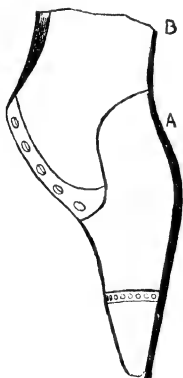
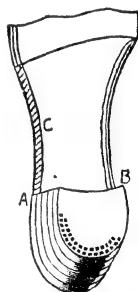

Fig. 137.—Paring Waist and Buffing Edge.
Fig. 138.—Peening Waist and Breaking Heel Corners.
up, as Fig. 137, the edge of the sole is now knifed-up with the knife in the right hand, the point only between the thumb and finger, as shown by B (Fig. 95, page 90), commencing at A (Fig. 137), and going round to the joint on the other side. Only little shavings are taken off, for the sole has been already shaped; all that now remains is to make the edge quite square.
To prepare for knifing-up the waist, the corners A and B (Fig. 138) must be well knocked down by means of a corner-beater or welt-beater, which is made by heating an old file, turning it back for about a third of the way, and while hot beating it up square, at A and B
The corners are knocked down by putting a corner-beater (Fig. 140), right into the corner of the heel and waist, at A or B, and hammering it well down until a decided corner is made to the heel. While this is being done, the boot is held in the position shown by Fig. 138, by the stirrup, firm upon the knees. Then hammer each side of the waist with the peen end of the waist or cramp hammer; this will knock the edge of the waist over, to cover the stitch, and also make it lie closer to the upper. This process will leave marks at C; but a second row of taps, made with the peen of the hammer held so that these lines shall cross the others, will make the edge more even, and also very firm at the side of the stitches. The waist can now be hammered along each
The top of the top piece of the heel can be well filed with the file side of the rasp. The boot is held between the knees, in the position of Fig. 138, or reversed with the toe towards you; it must be held very firmly, with the
Sand-papering is the next process, and a troublesome one it may prove if the sand-paper is not soft, even, and used in the proper place. To do the sand-papering of the sole, the boot can be held in the position of Fig. 137 for the last half, and in the reverse direction for the first half. A sheet of sand paper costs a penny, and folded uniformly it will make sixteen handy pieces. Double one of these rough side out, and hold it between the thumb and finger, as the buffing-knife in Fig. 145, except that the three fingers and the forefinger are closed in the palm of the hand, holding the paper between the thumb and the knuckle of the forefinger, and so far from the edge as to leave the paper under the thumb only. Supposing *D* to be the sand-paper, the folded edge should be at *B*, and being used upon the forepart, this edge must be nearest to the upper; but it must not touch it, nor must the hollowness in the edge be in the least interfered with.
When the edge of the waist was peened as at c (Fig. 138), the process ought to have knocked the welt very close to the upper. With the boot in the position shown in Fig. 137, hold the knife upright, and, commencing at the heel, and coming down to where the sole begins to get thick (A), cut away the edge of this welt in the waist. It will be only a very narrow strip, and as it was skived very thin, it will not be hard to cut. You must not cut very near the stitches, and take care not to slit the upper. With the boot in the reverse position, the same process is done on the other side in the same way,
only this is done so that the sole c (Fig. 138) shall itself form the edge of the waist, which will then be solid.